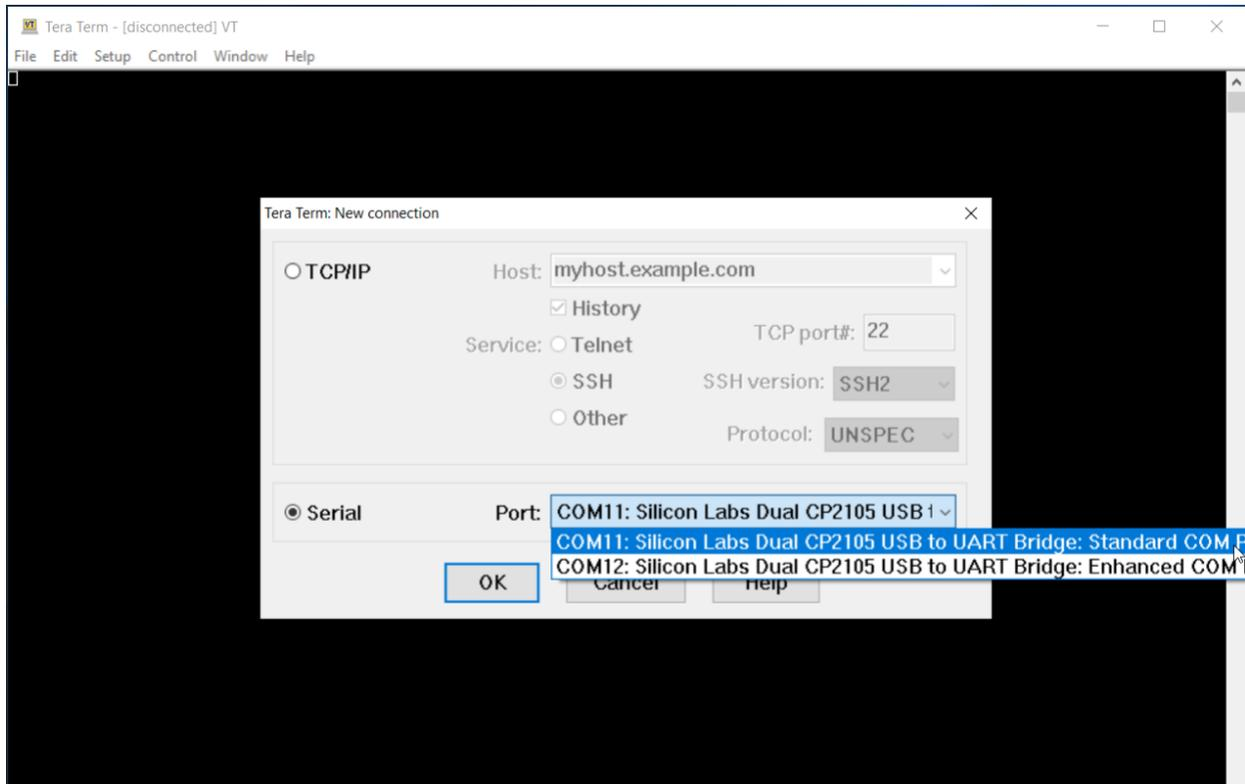

Figure 16
2. After installing Tera Term, run it. The startup window will look similar to *Figure 16*.